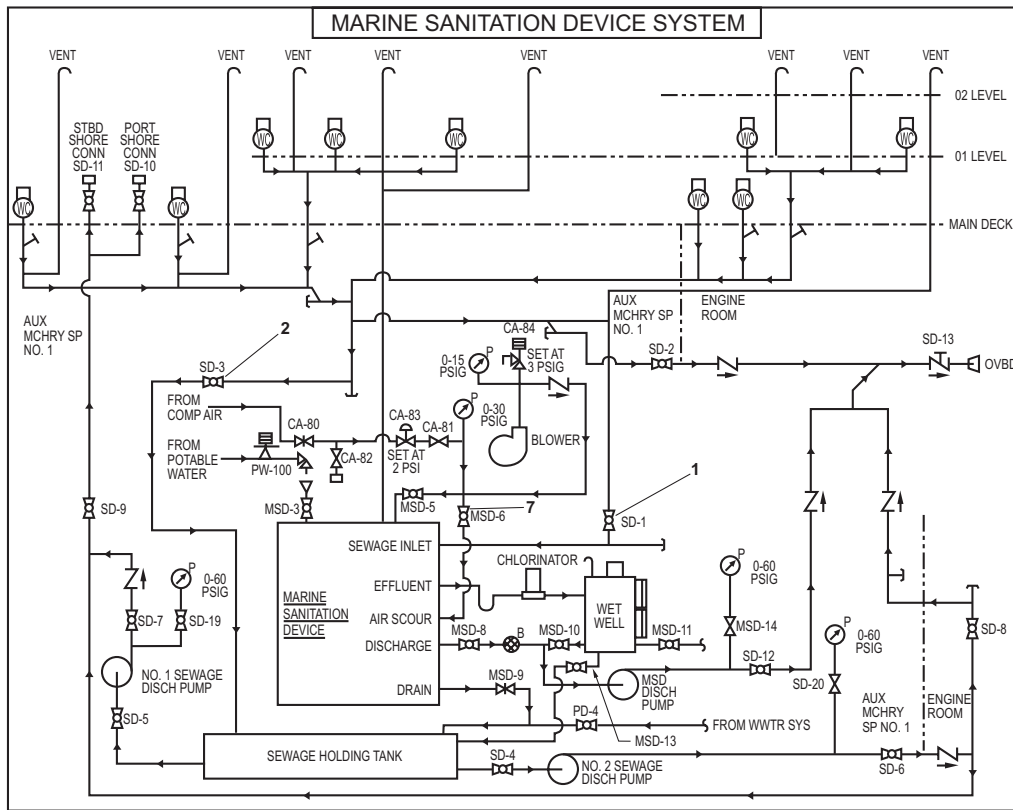

Figure 1. MSD Piping and Valve Schematic
1. CLOSE the SEWAGE INLET TO MSD valve SD-1 (figure 1, item 1). Lock out and tag out (FM 55-502).
2. OPEN the SEWAGE DRAIN TO HOLDING TANK valve SD-3 (figure 1, item 2).